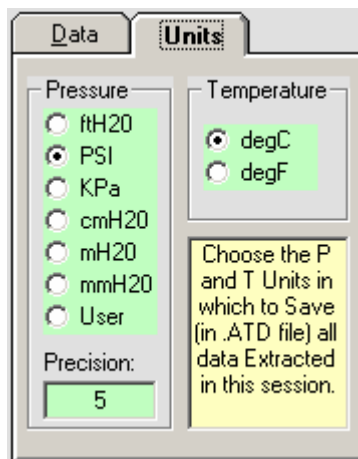

Figure 3.21
- The **Units** tab selects the engineering units into which the extracted pressure and temperature data will be converted when extracted (figure 3.21). The precision of the pressure data may also be selected. The units of measure and precision settings will be used when the extracted data is displayed within Data Scout Advanced as well as when the data stored into electronic files as part of the extraction process. By default, the current pressure units and temperature units of the transducer are selected for the data recorded in the extraction files (.atd and .csv).